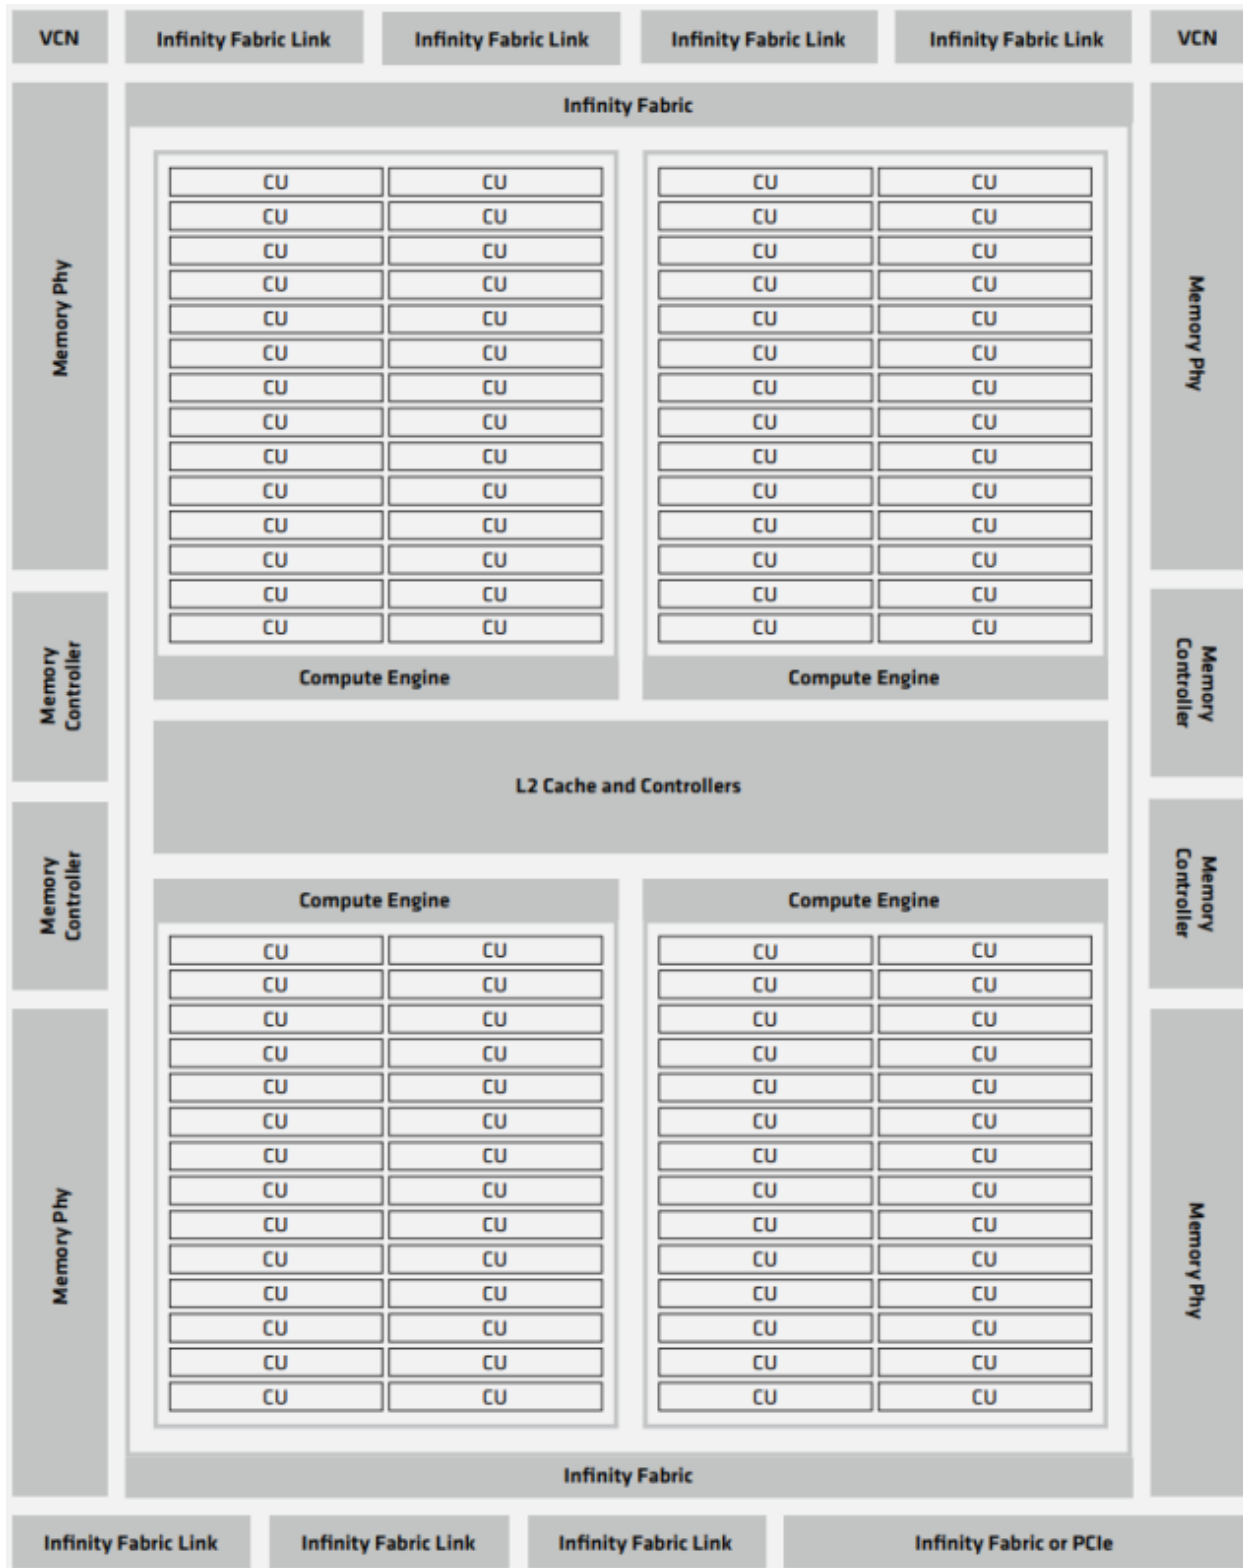

Fig. 26.1: Figure 1: Structure of a single GCD in the AMD Instinct MI250 accelerator.
Fig. 26.1 shows the components of a single Graphics Compute Die (GCD) of the CDNA 2 architecture. On the top and the bottom are AMD Infinity Fabric™ interfaces and their physical links that are used to connect the GPU die to the other system-level components of the node (see also Section 2.2). Both interfaces can drive four AMD Infinity Fabric links. One of the AMD Infinity Fabric links of the controller at the bottom can be configured as a PCIe link. Each of the AMD Infinity Fabric links between GPUs can run at up to 25 GT/sec, which correlates to a peak transfer bandwidth of 50 GB/sec for a 16-wide link (two bytes per transaction). Section 2.2 has more details on the number of AMD Infinity Fabric links and the resulting transfer rates between the system-level components.
The execution units of the GPU are depicted in Fig. 26.1 as Compute Units (CU). The MI250 GCD has 104 active CUs. Each compute unit is further subdivided into four SIMD units that process SIMD instructions of 16 data elements per instruction (for the FP64 data type). This enables the CU to process 64 work items (a so-called “wavefront”) at a peak clock frequency of 1.7 GHz. Therefore, the theoretical maximum FP64 peak performance per GCD is 45.3 TFLOPS for vector instructions. The MI250 compute units also provide specialized execution units (also called matrix cores), which are geared toward executing matrix operations like matrix-matrix multiplications. For FP64, the peak performance of these units amounts to 90.5 TFLOPS.